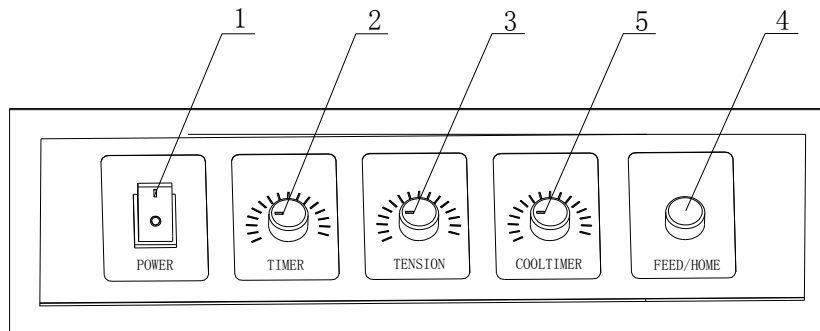

FIG 3-1
3-1 Functions of control panel (refer to FIG 3-1)
- ② Turn on the power switch 1 indicated in the FIG 3-1.
- ③ Put the package onto the machine close together to the barrier.
- ④ Pull the strap around the package and insert it along the strap-inserting path, then the machine will strap automatically.